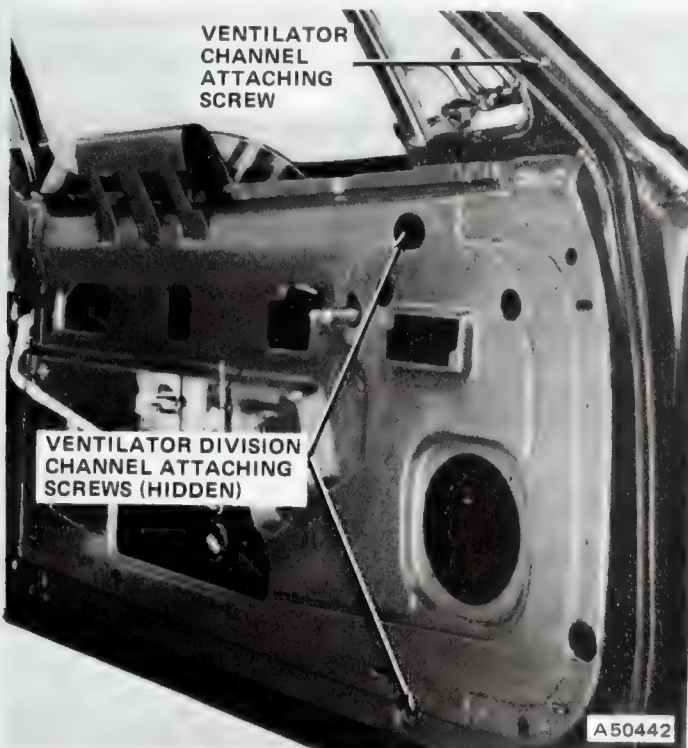

Fig. 3J-9 Ventilator Division Channel Removal —Pacer
- (1) Remove door trim panel and water dam paper.
- (2) Remove ventilator channel attaching screws (fig. 3J-9).
- (3) Remove ventilator division channel attaching screws.
- (4) Lower window completely.
- (5) Remove ventilator division channel assembly (fig. 3J-8) from door.